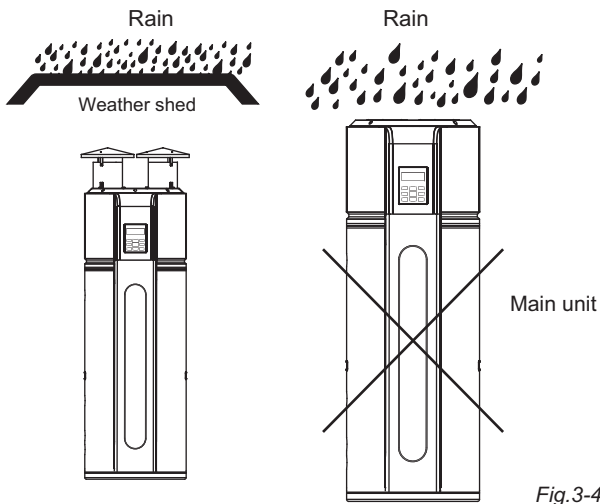

Fig.3-4
- In case of rain entering to internal components of the unit, the component might be damaged or causing physical danger. (Fig.3-4)